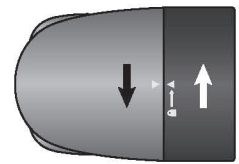

Fig. 4
3. To close cover match arrows and turn clockwise as shown in Fig. 4.